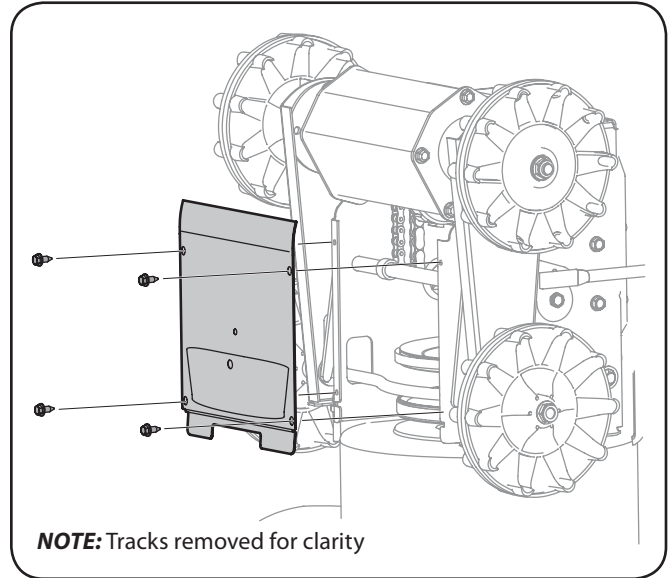

Figure 6-2
2. Remove the frame cover from the underside of the snow thrower by removing the self-tapping screws which secure it. Refer to Fig 6-2.